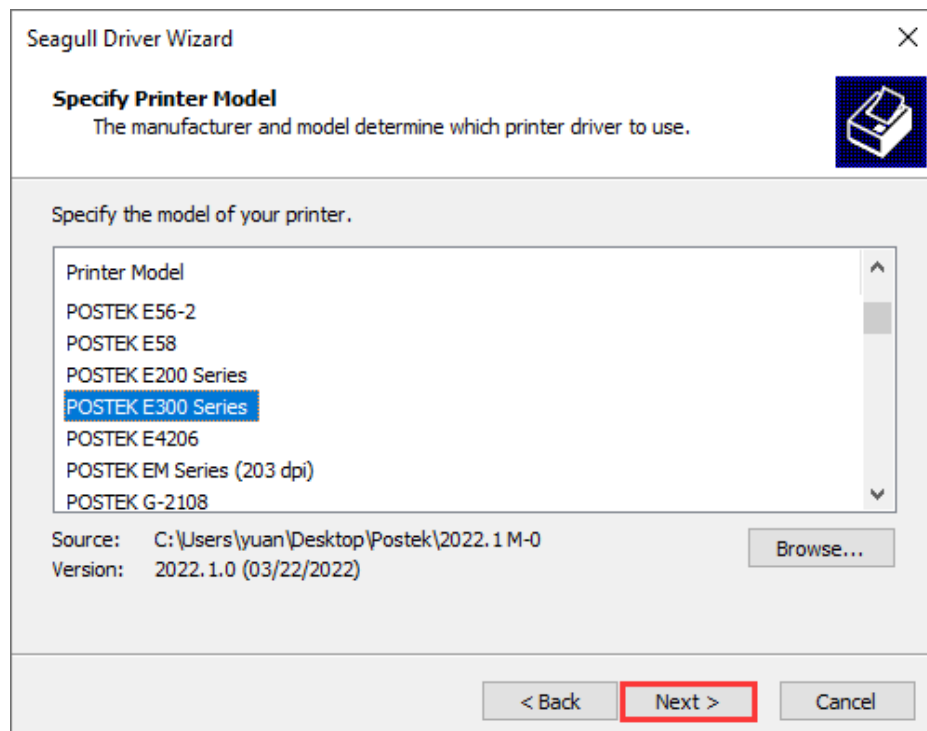

Figure 2-34 Specify Printer Model Screen
- 4. The “Specify Printer Model” screen displays, select the printer model (POSTEK E300 Series for example), and click “Next”, as shown in Figure 2-34.